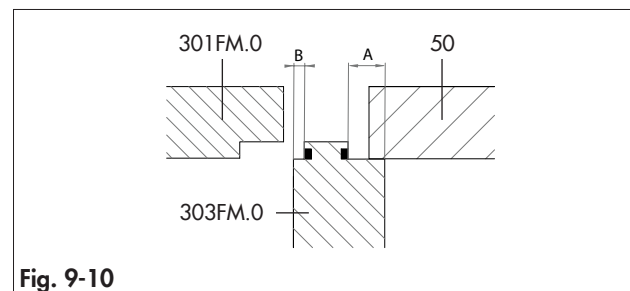

Fig. 9-10
In case the disk (303FM.0) is not symmetric (A>B), it must be assembled between the right body (301FM.0) and the central body (50) oriented as shown in Fig. 9-10.